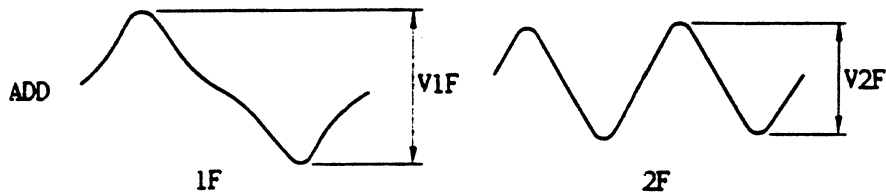

Figure 4-10 Resolution Measurement
5. Measure the average read level (shown as V1F in Figure 4-10).
7. Measure the average read level (shown as V2F in Figure 4-10).